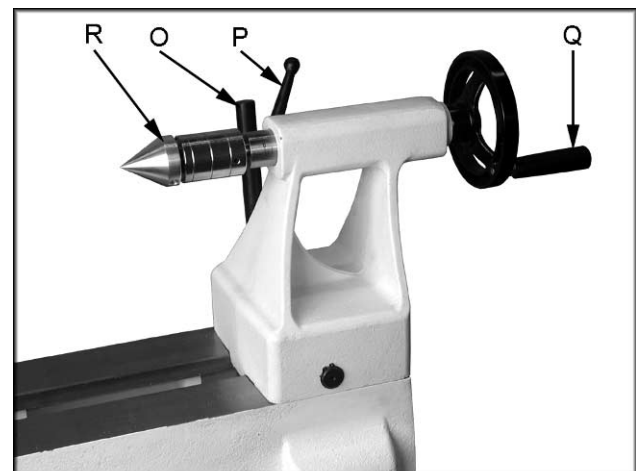

Fig. 10
12. **Tailstock Lock Handle:** (O, Fig. 10) Locks the tailstock in position. Unlock handle to position the tool rest in any location along lathe bed. Tighten handle when properly positioned.
13. **Tailstock Quill Lock Handle:** (P, Fig. 10) Locks the tailstock quill in position. Unlock handle to position the quill. Tighten handle when properly positioned.
14. **Tailstock Quill Handwheel:** (Q, Fig. 10) Turn the handwheel to position the quill. The tailstock quill lock handle must be loose to position quill.
15. **Tailstock Live Center:** (R, Fig. 10) Used for turning between centers. Quill taper is MT-2. Remove live center by retracting the quill until live center loosens. Remove, or add different tips to the live center by inserting the provided rod through the holes in the